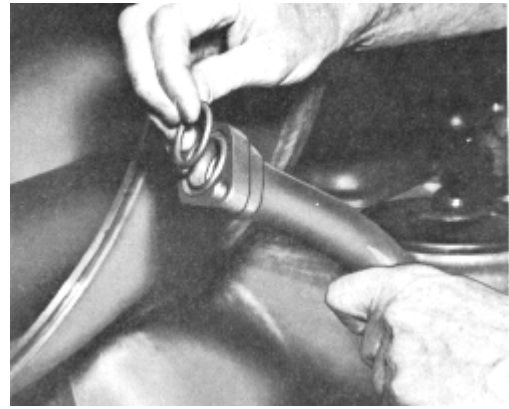

Fig. 5-25 - Applying Seal To Water Inlet Tube
80. Coat a new seal with Dow 4 silicone grease and place in the groove at the liner end of the water inlet tube, Fig. 5-25.
49. Coat a new seal with Dow 4 silicone grease and place in the groove at the liner end of the water inlet tube, Fig. 5-25.